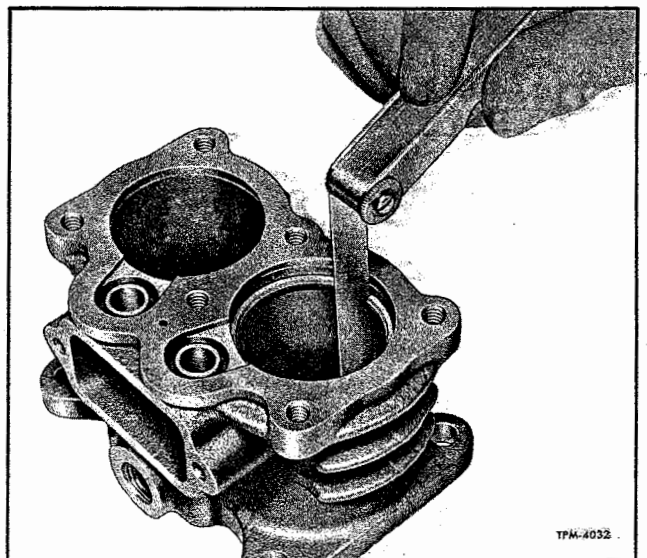
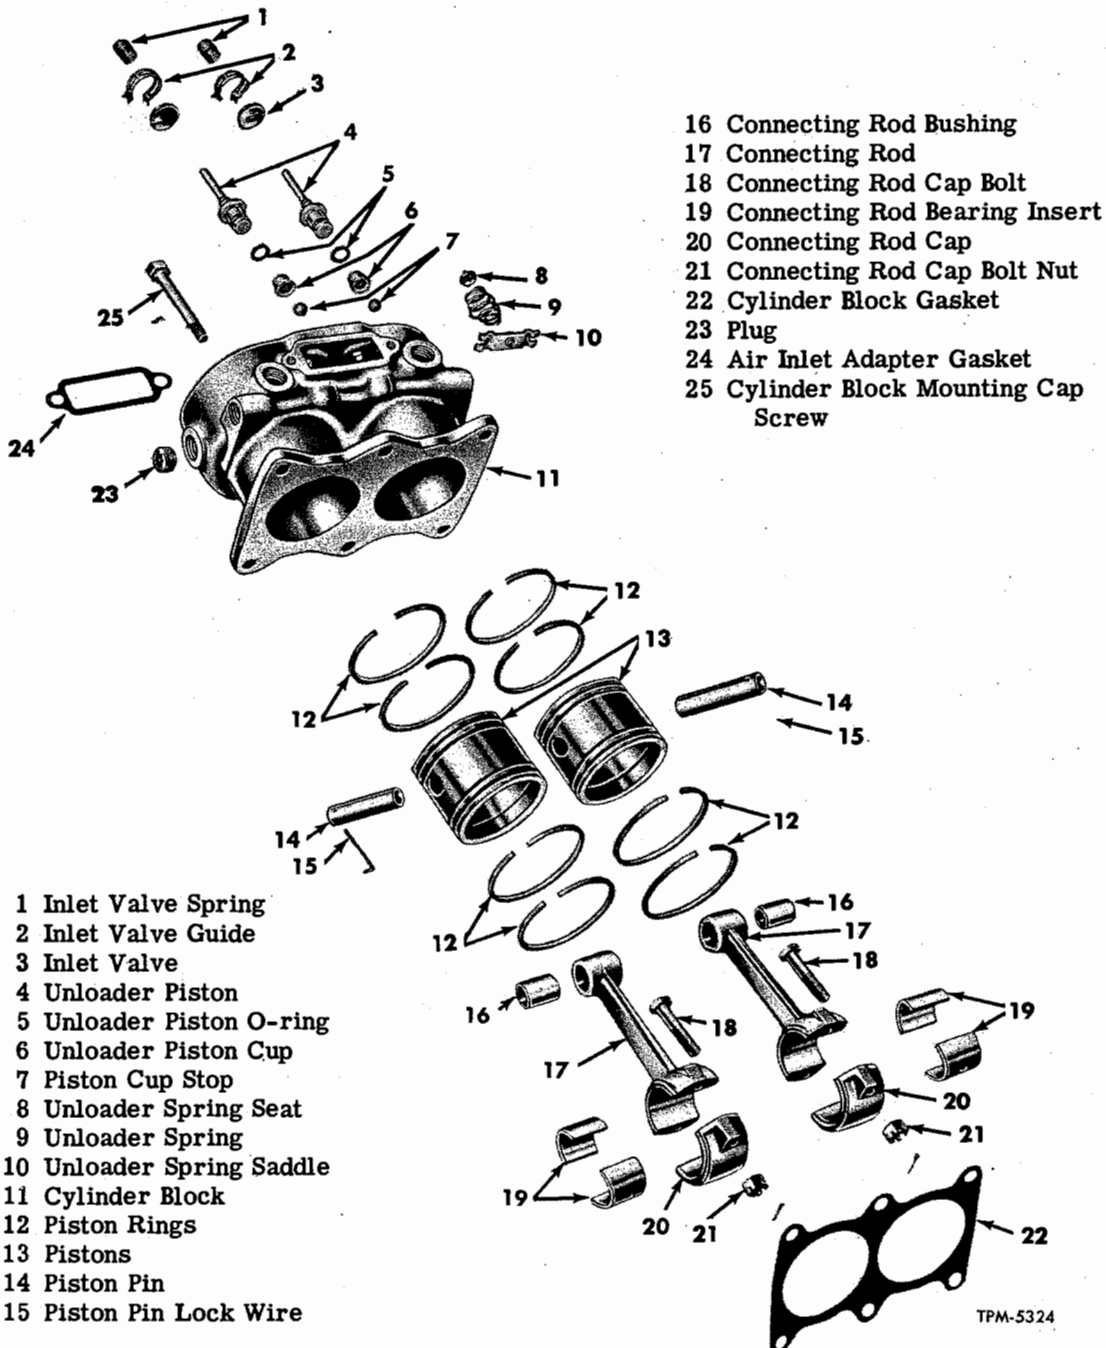

Figure 34—Measuring Piston Ring Gap
Figure 35—Cylinder Block Components
10. Piston Rings (Fig. 34). Check fit of piston rings in ring grooves, and check ring gap with ring in cylinder bore. Clearance between rings and sides of ring grooves should be from 0.0035" to 0.0055" for two wide rings and from 0.002" to 0.004" for three narrow rings as shown in figure 35. Ring gap should be from 0.005" to 0.015".
CYLINDER BLOCK INSTALLATION (Fig. 35)
PISTON AND CONNECTING ROD ASSEMBLY AND INSTALLATION (Fig. 35)